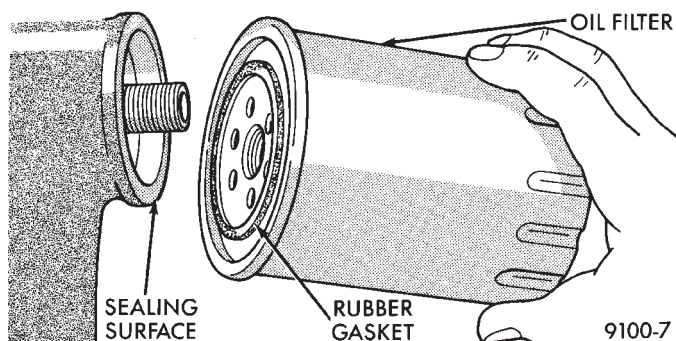

Fig. 9 Oil Filter Sealing Surface—Typical
(4) When filter separates from adapter nipple, tip gasket end upward to minimize oil spill. Remove filter from vehicle.
(5) With a wiping cloth, clean the gasket sealing surface (Fig. 9) of oil and grime.
(1) Lightly lubricate oil filter gasket with engine oil or chassis grease.
(2) Thread filter onto adapter nipple. When gasket makes contact with sealing surface, (Fig. 9) hand tighten filter one full turn, do not over tighten.
(3) Add oil, verify crankcase oil level and start engine. Inspect for oil leaks.